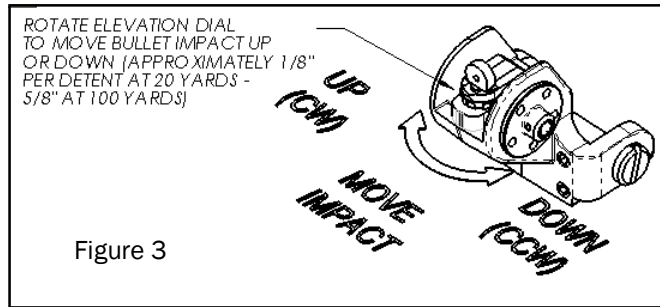

Figure 3
To adjust the TS200 for elevation, rotate the elevation dial. Rotating the dial clockwise (CW) raises the point of impact approximately 5/8" at 100 yards for each detent click. Rotating the dial counter-clockwise (CCW) lowers the point of impact. See Figure 3.